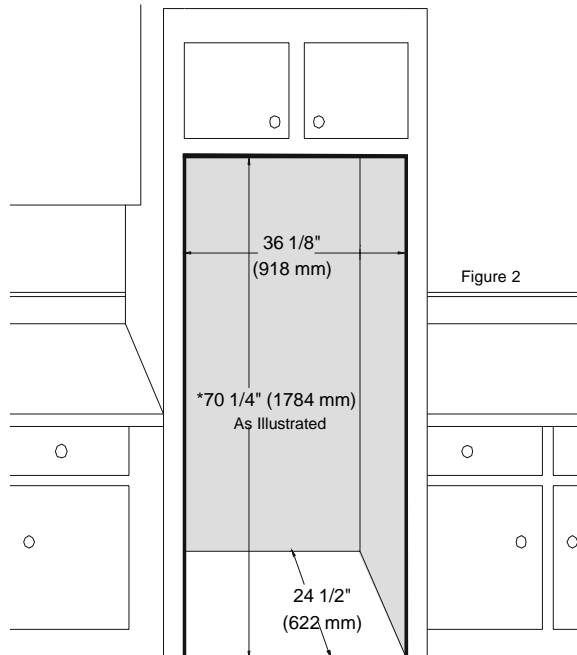
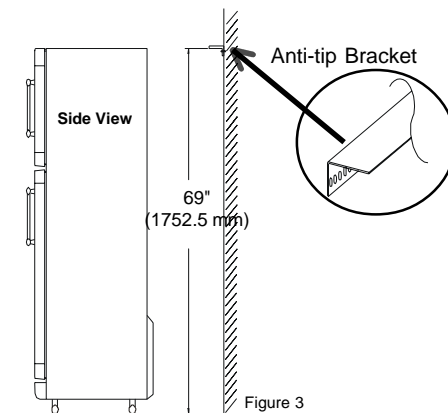

Figure 2
Figure 3
- a) Alcove Installation (Figure 2)
- b) Anti-tip Bracket Installation (Figure 3)
- Install the anti tip bracket supplied (as shown in Figure 3)
- Secure the bracket to the marked positions on the wall, with a minimum of three (3) wood screws penetrating at least 3/4" (19 mm) into wall studs.
- Raise rear of unit by turning the 5/16" rear roller adjustment screw clockwise until the unit is snug against the anti tip bracket (figure 3), or the top cabinetry in an alcove installation (figure 2).